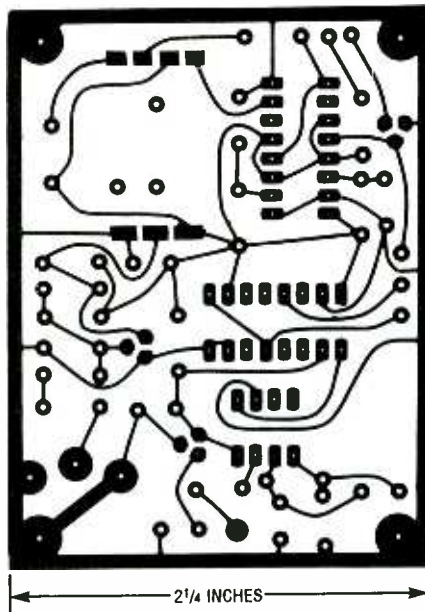

Fig. 2. The author's prototype of the counter was built on a small printed-circuit board, the template for which is shown here.
**Assembly.** The author's printed-circuit pattern for the Super-Simple Frequency Counter is shown in Fig. 2. As mentioned earlier, there are two versions of the counter module. The pattern in Fig. 2 is designed for the Sub Cub I module. For those etching their own printed-circuit boards, 1/16-inch thick printed-circuit board material recommended. If you choose not to etch your own board, one may be purchased from the supplier listed in the Parts List.
Fig. 3. Here is a parts-placement diagram corresponding to the foil pattern shown in Fig. 2. Mounting the components to the board is straightforward, but be aware that LED1 and the counter module (which are indicated by the dashed lines) are mounted on the foil side of the board.
In order to ignite a Xenon flashlamp, you need to meet two conditions. First, the Xenon gas must be ionized (which is accomplished via the circuit in Fig. 1). Next, there must be a large capacitor to store energy at a high enough voltage to sustain the arc inside the flashlamp after it is triggered. A power supply is also needed to charge that capacitor. The circuit at Fig. 2 provides that function with a minimum of parts.
Fig. 2. The power supply for the SentryStrobe is a simple voltage doubler/rectifier circuit, which provides 330 volts DC to the primary winding of the trigger transformer in the strobe circuit.
It is important to remember that the circuit is connected directly to the AC line. Resistor R6 is included in the circuit of Fig. 2 to limit the amount of line current available to the circuit. The value of R6 may be decreased if you intend to modify the circuit for more flash power. **Warning:** Even though the circuit is fuse-protected, the circuit can still be dangerous if handled carelessly.
When the AC line voltage is applied to the circuit in Fig. 2, it is stepped-up (about 2.8 times) by a voltage-doubler circuit consisting of D1, D2, C4, and C5. Diodes D1 and D2 (in addition to their other duties) rectify the incoming AC line voltage, which is then stored as DC in the two large capacitors (C4 and C5), and provides an output of about 330 volts DC, which is an ideal voltage level to ignite the flashlamp.
**Power Supply Assembly.** The author's prototype was assembled on a 6- $\times$  3½-inch section of perfboard, with point-to-point wiring used to join the circuit elements. Once you've obtained all the parts, begin construction with the power supply, using Fig. 2 as a guide. Fuse F1 should preferably be a fast-blow type. When installing R6, keep about a ¼-inch space between R6 and the circuit board to allow that unit to dissipate heat freely.